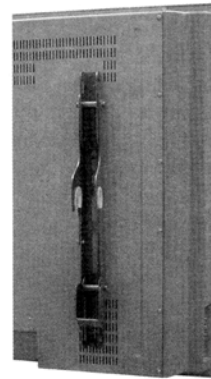

Fig. 4 - Attach the arms to your display
4. Attach the arms to the display using the bolts identified in Steps 1 and 2 (Fig. 4). Use the corresponding Lock Washer (C, F, I, or L) with each bolt. If your display has a curved, recessed, or slotted back, you may need to use a Spacer (M or N). If you are using an M4 or M5 Bolt (A, B, D, or E), you must use a Washer (O) with each bolt.